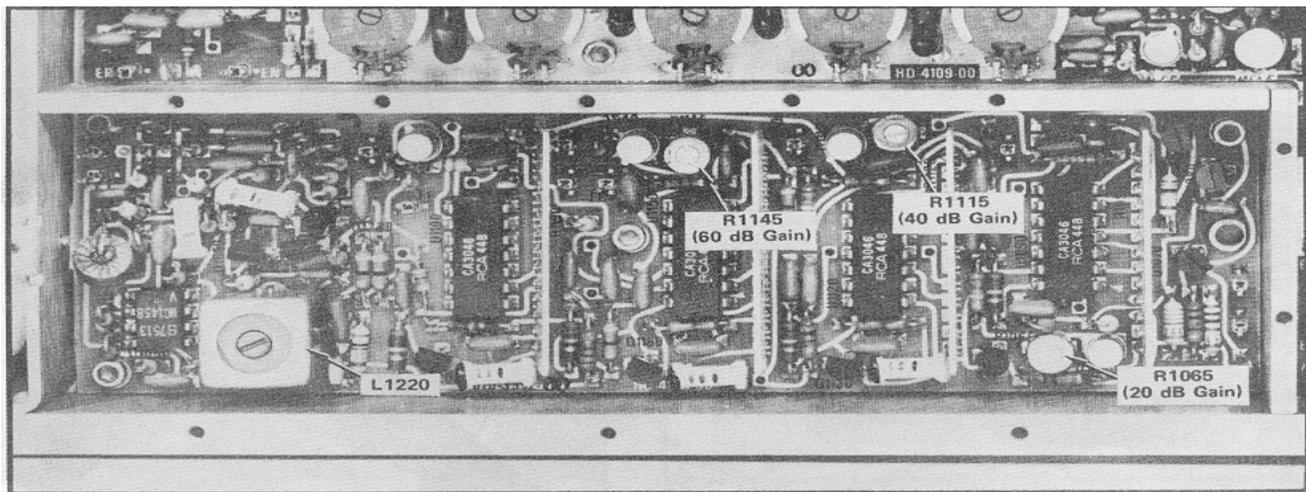
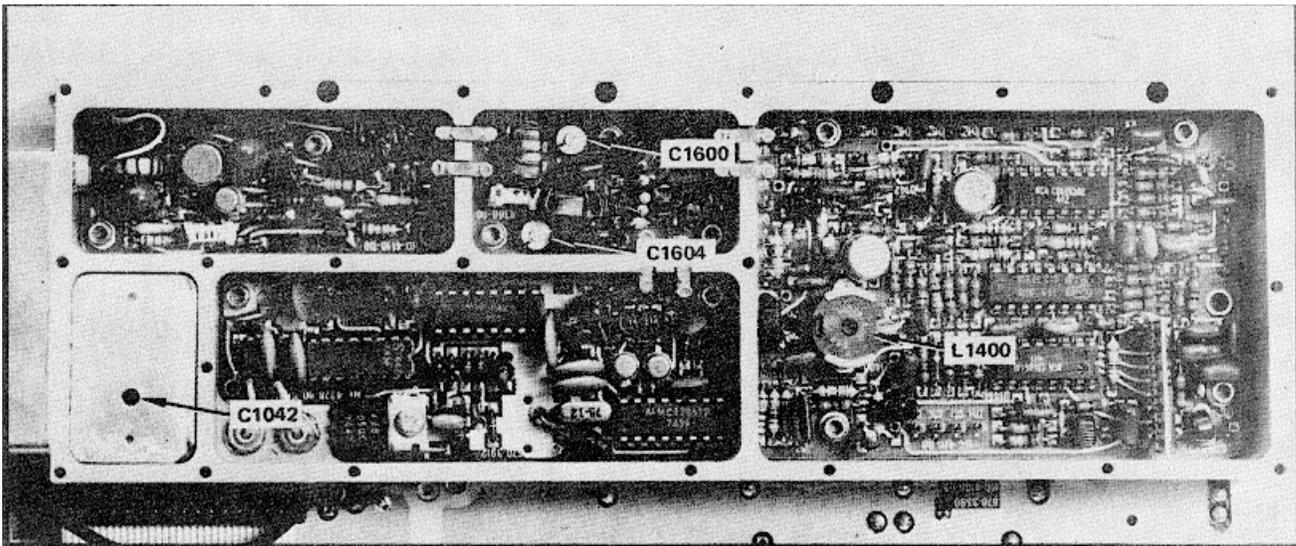

Fig. 4-13. Test points and adjustments on the Log/Lin Amplifier board.
Figure 4-14. Test points and adjustments on the 250 kHz IF Amplifier, 10.8 MHz Input Filter and 2nd Mixer.
3. Adjust the 20 dB Gain, with R1065 (Fig. 4-13), so the signal level equals the reference level (established in step 1).
5. Adjust the 40 dB Gain with R1115 (Fig. 4-13) so the display level equals the reference level.
6. Repeat the procedure to calibrate the 60 dB Gain with R1145 (Fig. 4-13).
c. ---Adjust L1200 (Fig. 4-13), L1400, C1604, C1600, and C1042 (Fig. 4-14) for maximum response to the 500 kHz Calibrator signal.